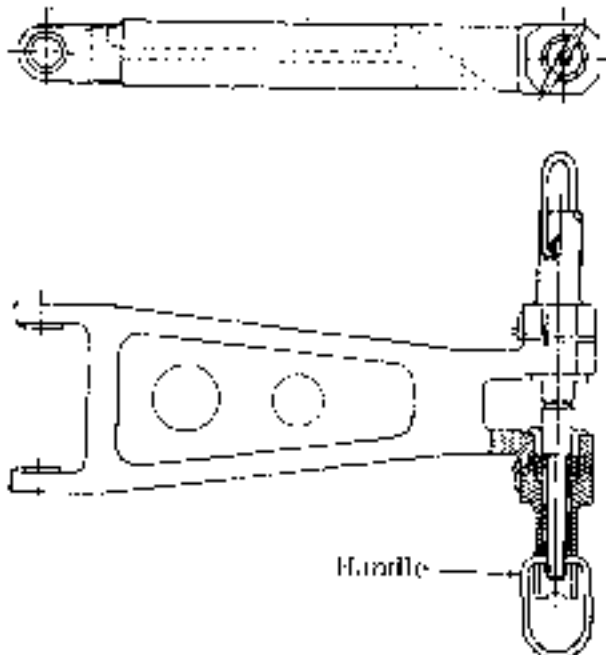

Fig. 4-18 Nose gear torque link assembly
2. 11 TORQUE LINK ASSEMBLY (See Fig 4-18)